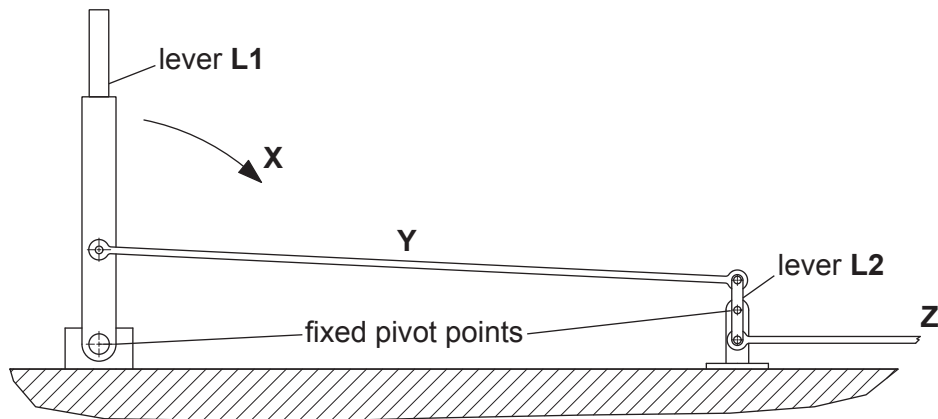

Fig. 3.1
- 3 Fig. 3.1 shows a lever being used to move a link rod that is attached to a second lever.
- (b) Add arrows to Fig. 3.1 to show how link rods Y and Z will move when lever L1 rotates in direction X. [2]